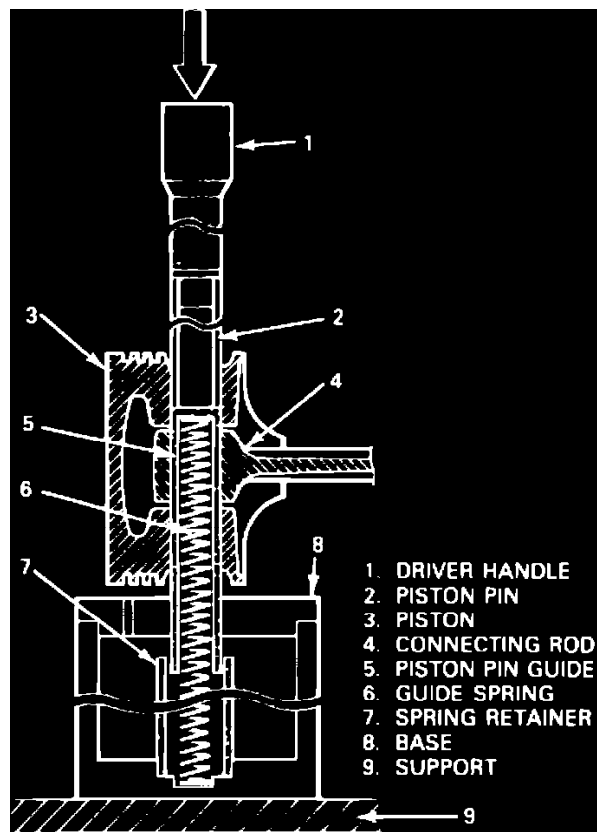

Fig. 24 Piston pin installation
2. Place piston on tool J-34838 so arrow mark on piston head faces up. Press piston pin into piston and connecting rod, **Fig. 24**.